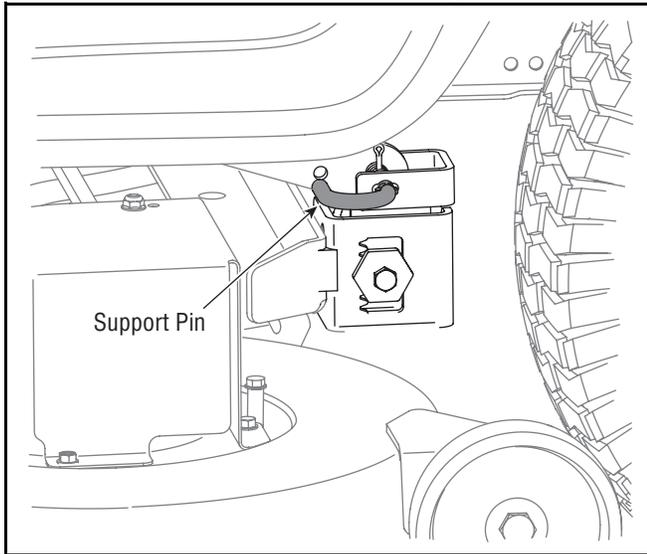

Figure 21
7. Pull the deck support pin outward to release the deck from the deck lift arm. See Figure 21.